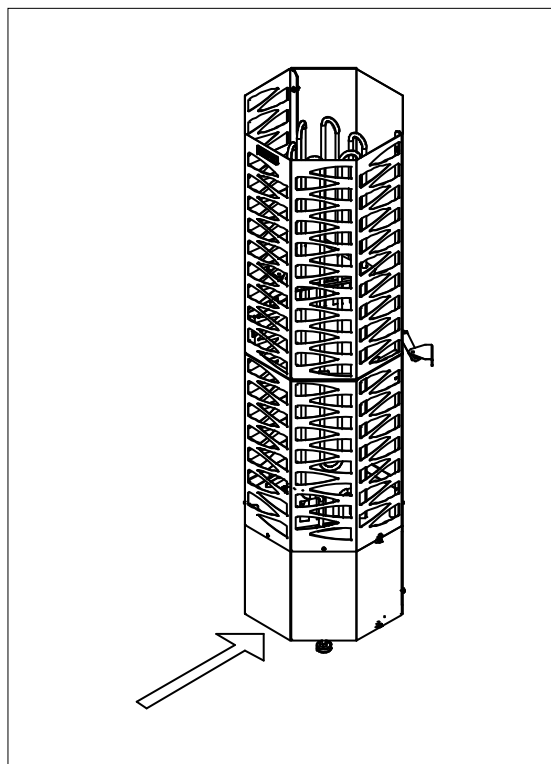

Figure 7. Location of the main switch
9. Ensure that the main switch (I/O) of the heater is in the O position. See Figure 7.